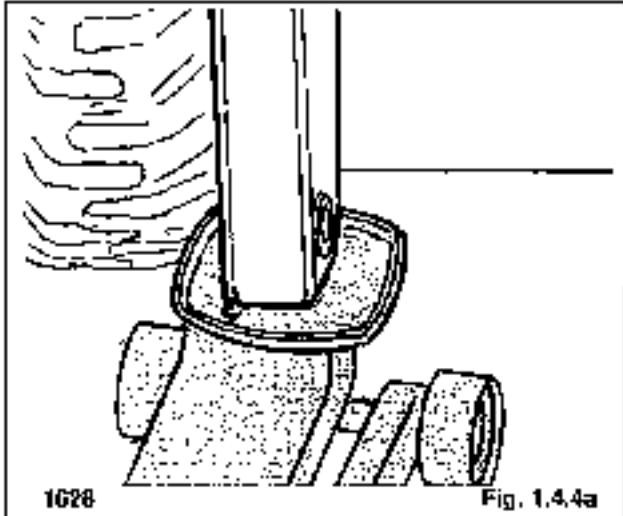

Fig. 1.4.4a
- Put a floor jack under the boom arms (fig. 1.4.4a).